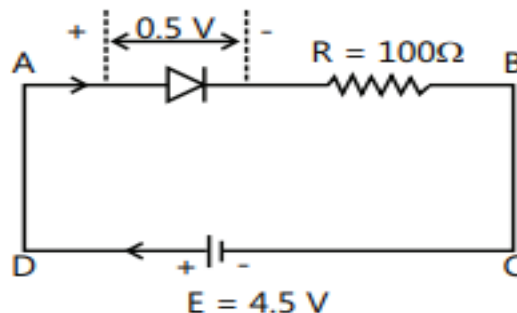

Fig 1.2. Barrier potential in diode
1.2 A diode connected to an external resistance and an e.m.f. assuming that the barrier potential developed in diode is 0.5V as shown in the fig1.3. Obtain the value of current in the circuit in milli- ampere as shown in the fig.1.2.